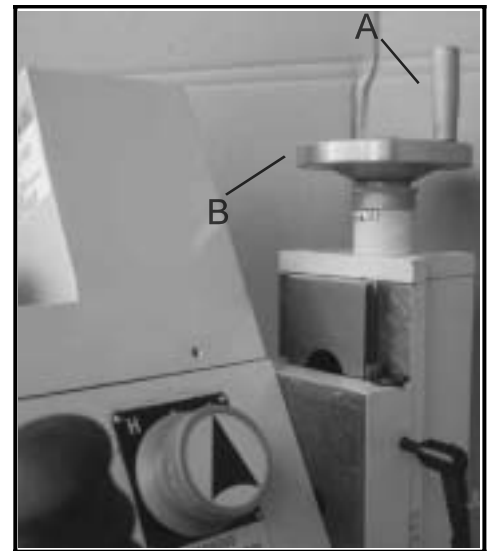

Fig. 02
1. Screw handles (A, Fig.02) onto handwheel (B, Fig.3) and tighten.